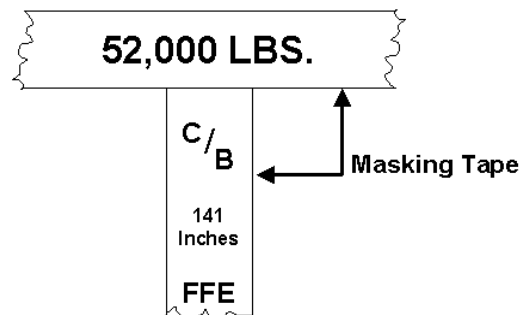

Figure P-2. Center of Balance Marker
3. After computing the CB of a vehicle, mark its location and gross weight on both sides using weather-resistant masking tape and a grease pencil/magic marker, forming the letter “T”, Figure P-2.